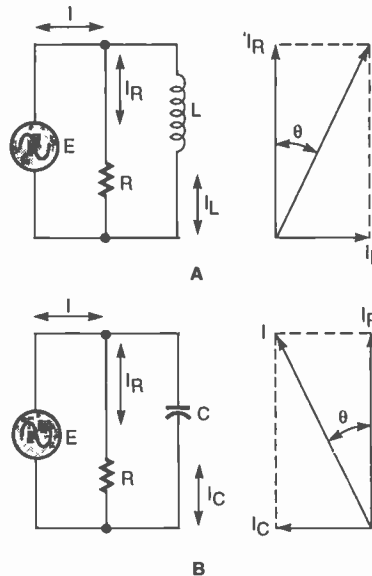

Fig. 3. Reactance in a parallel circuit causes component currents to be out of phase.
**Parallel RLC Circuits.** Figure 3 summarizes the essential points of the parallel circuit that contains either capacitance or inductance. As the voltages across all components in a